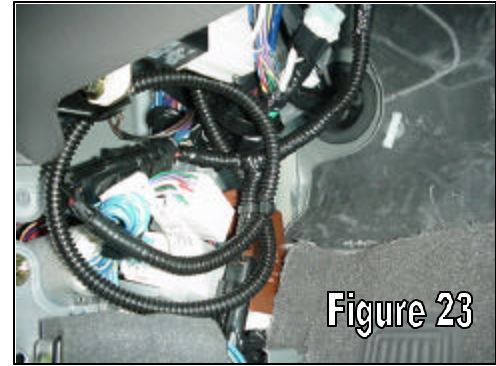

Figure 23
- Both ends of harness should meet at the Driver's side kick panel. See Figure 23